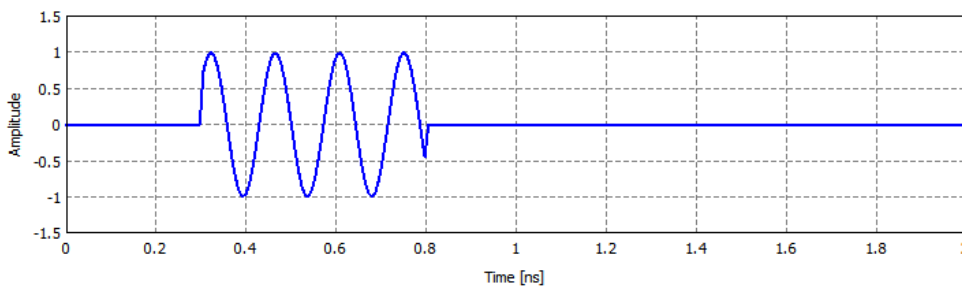

Figure 459: The **Signal preview** shows the sine wave pulse with a delay of 0.3 ns and a duration of 0.5 ns.
**Note:** Equation 26 and Figure 459 correspond to a modulated step signal at 7e9 GHz.